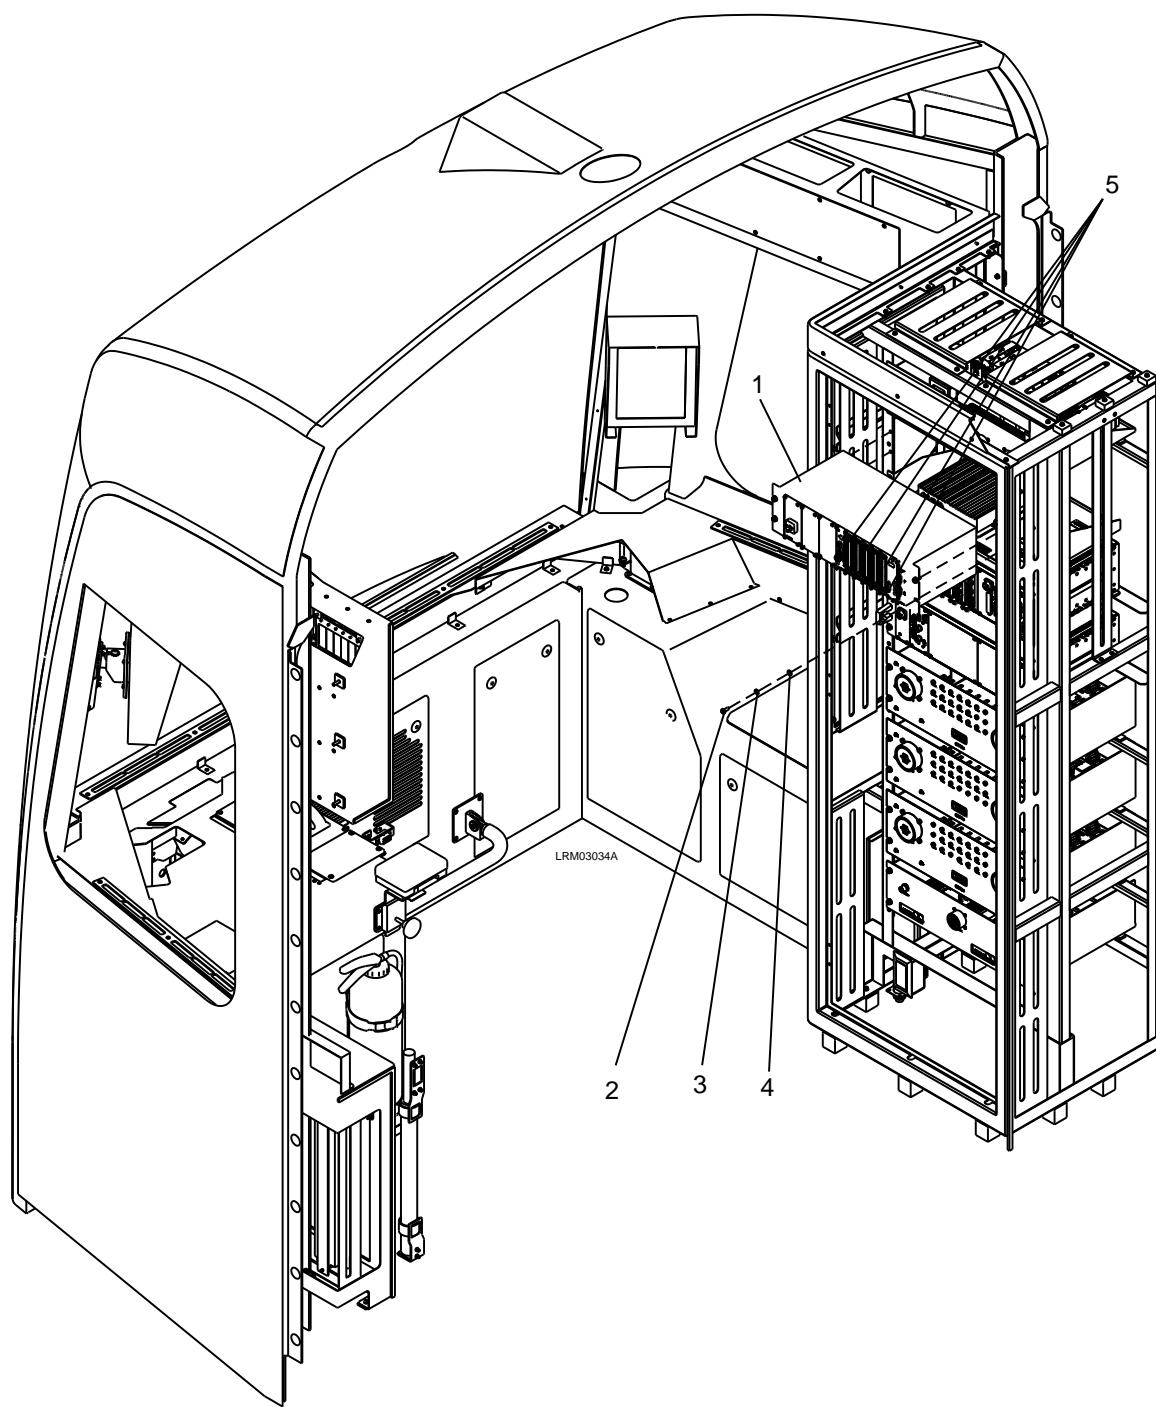

Figure 7-28: Electronic Control Unit (ECU), A-Unit
2. Disconnect the electrical connectors (5) to the ECU (1). See Figure 7-28.
3. Remove the four M6 x 16 screws (2), M6 lock washers (3), and M6 plain washers (4).
4. Carefully remove the ECU (1).